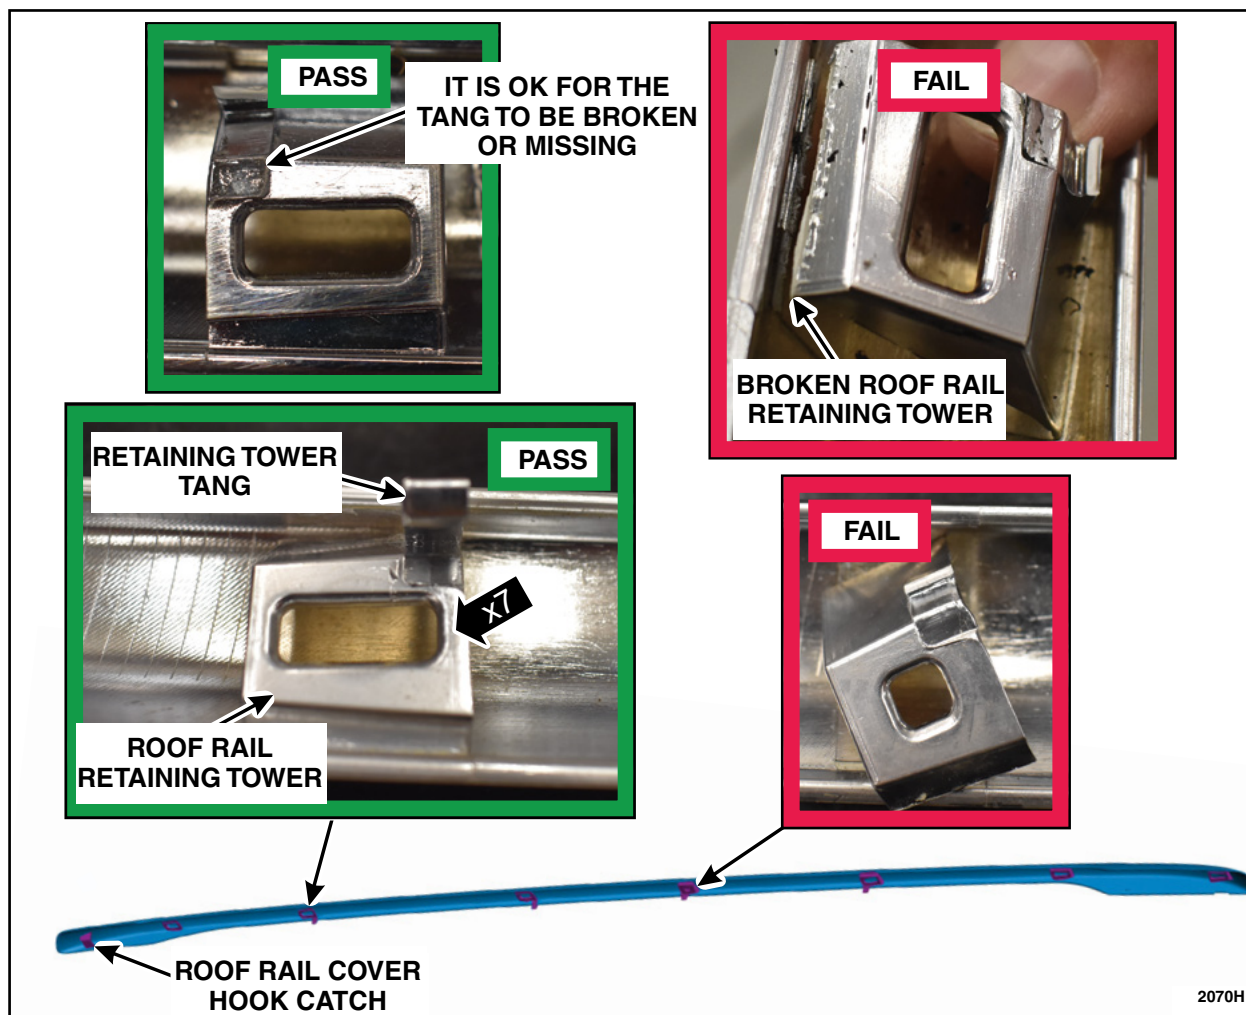

FIGURE 9
d. Inspect the retaining towers (7 each side) on the interior or underside of both the RH and LH roof rail covers. See Figure 9.